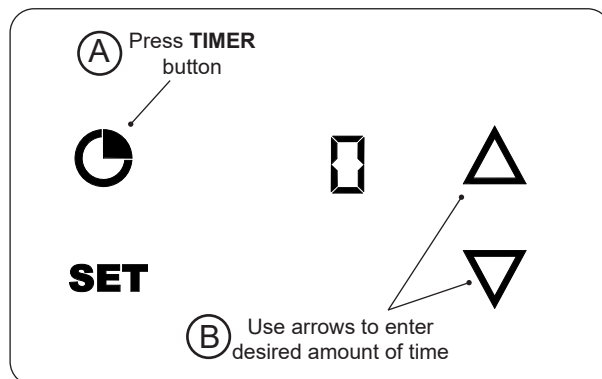

Fig. 41-1 Set timer
1. With the thermometer **on**, press the **TIMER** button once (Fig. 41-1, A). A zero will display indicating that no timer is set.
2. Press the **UP** or **DOWN** arrows to enter the desired amount of time (Fig. 41-1, B).